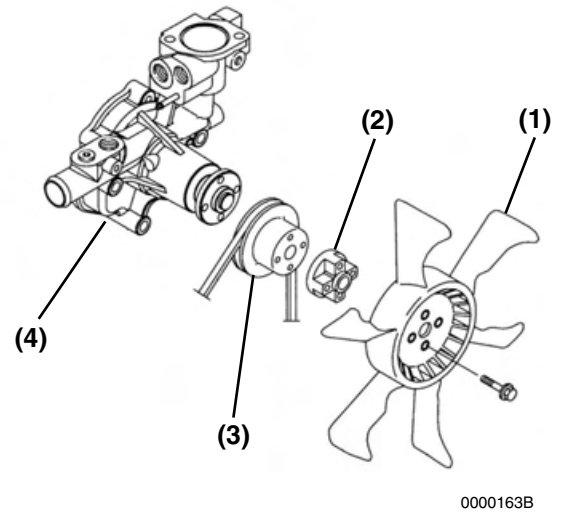

Figure 8-7
- Remove the engine coolant fan guard (if equipped), engine coolant fan (**Figure 8-7, (1)**), spacer (**Figure 8-7, (2)**) and engine coolant pump V-pulley (**Figure 8-7, (3)**).
- Remove the engine coolant pump (**Figure 8-7, (4)**). Discard the gasket.